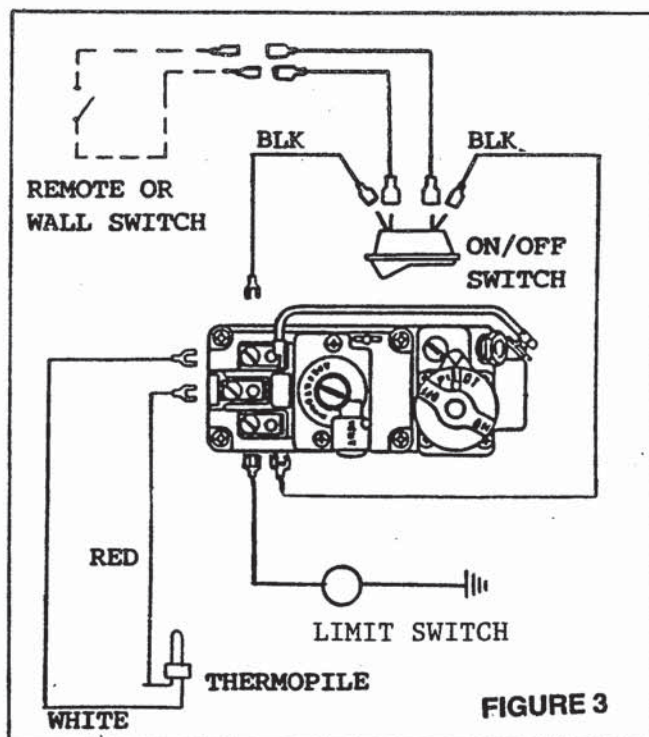

FIGURE 3
- F. Your appliance control system is a millivolt type. It consists of a pilot burner, a gas control valve/regulator, a thermopile, a piezo ignitor, and an ON/OFF rocker switch. See Figure 3 for control system wiring diagram.